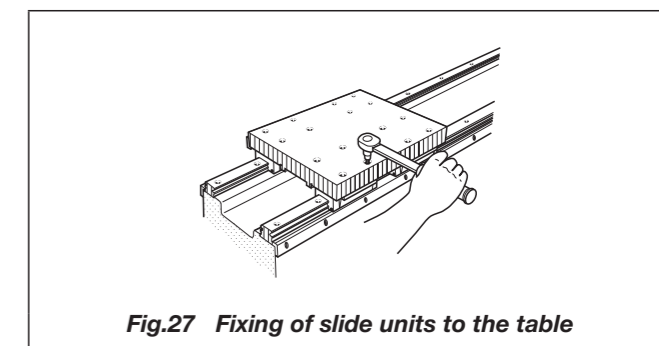

Fig. 27 Fixing of slide units to the table
- Move the table by hand to ensure smooth movement, then fix the Linear Way II slide units to the table with mounting bolts. (See Fig. 27.)